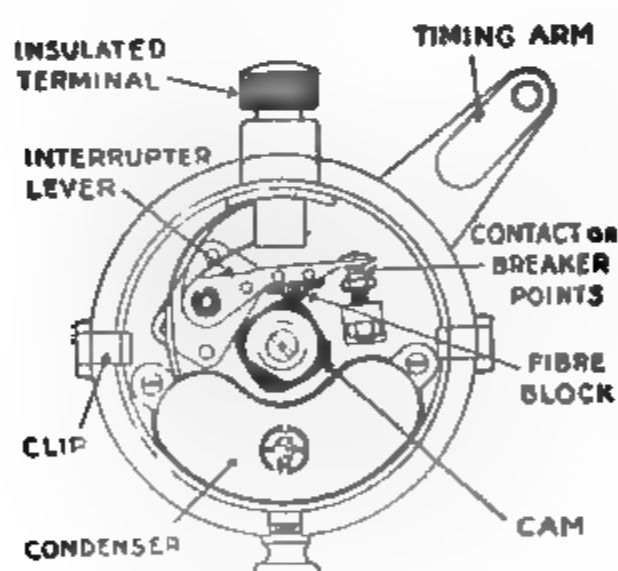

Fig. 134 Breaker and Condenser Unit
*Interrupter.* The interrupter, or breaker point, is assembled in a cup which also accommodates the condenser, Fig. 134. The entire